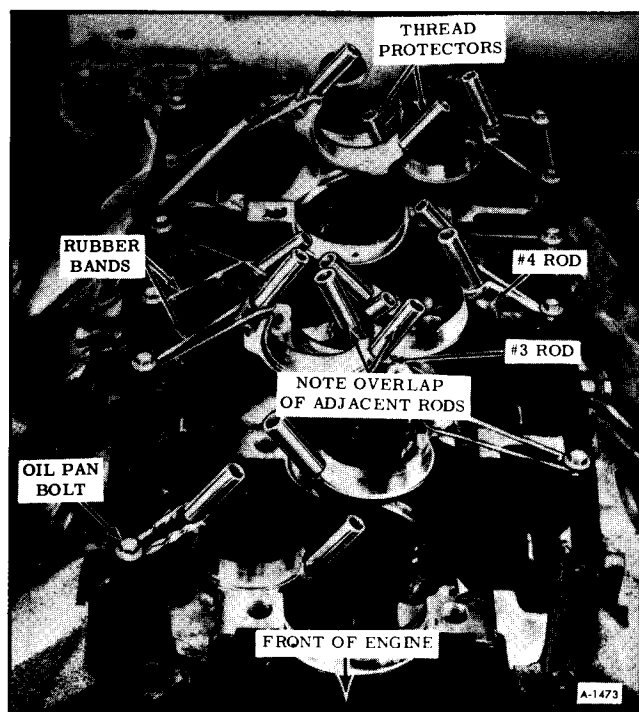

Figure 67—Crankshaft Removal
1. With engine on stand and oil pan, oil pump and front cover removed, rotate crankshaft to the position where the connecting rod nuts are most accessible. Figure 67 shows No. 3 and No. 4 rods in the fully extended position.
1. Install sufficient oil pan bolts in pan rails to align rods with rubber bands as shown in Figure 67.